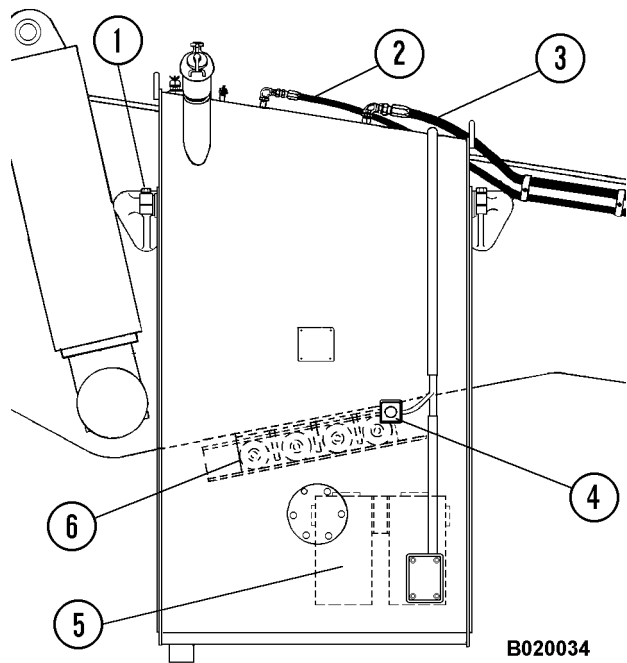
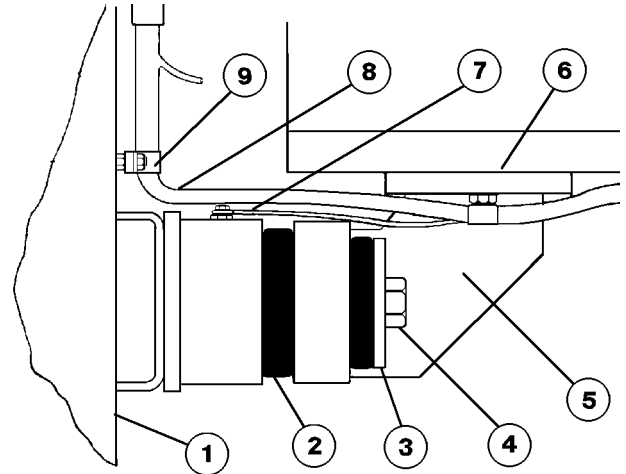

FIGURE 2-4. FUEL TANK
FIGURE 2-5. FUEL TANK MOUNTING BRACKET (Lower)
3. Disconnect fuel tank wire harness and remove clamps (9, Figure 2-5).
4. Remove ground wire (7).
5. Remove fuel supply (3, Figure 2-4) and return hoses (2) and plug to prevent contamination.
6. Remove hydraulic filter assembly (5) mounting hardware from fuel tank. Support filters by placing a chain over the frame rail. (It is not necessary to disconnect hydraulic hoses.)
8. Remove capscrews (4), and flat washers (3).
9. Remove capscrews, lockwashers, and caps (1, Figure 2-4) from upper mounting brackets.
11. Inspect rubber dampeners (2, Figure 2-5) and replace, if necessary.
2. Install caps, lockwashers, and capscrews (3, 4, Figure 2-5) and tighten to **310 ft. lbs. (420 N.m)** torque.
5. Attach fuel supply (3) and return (2) hoses. (Refer to Figure 2-4)
6. Attach hydraulic filter (5) assembly to fuel tank.